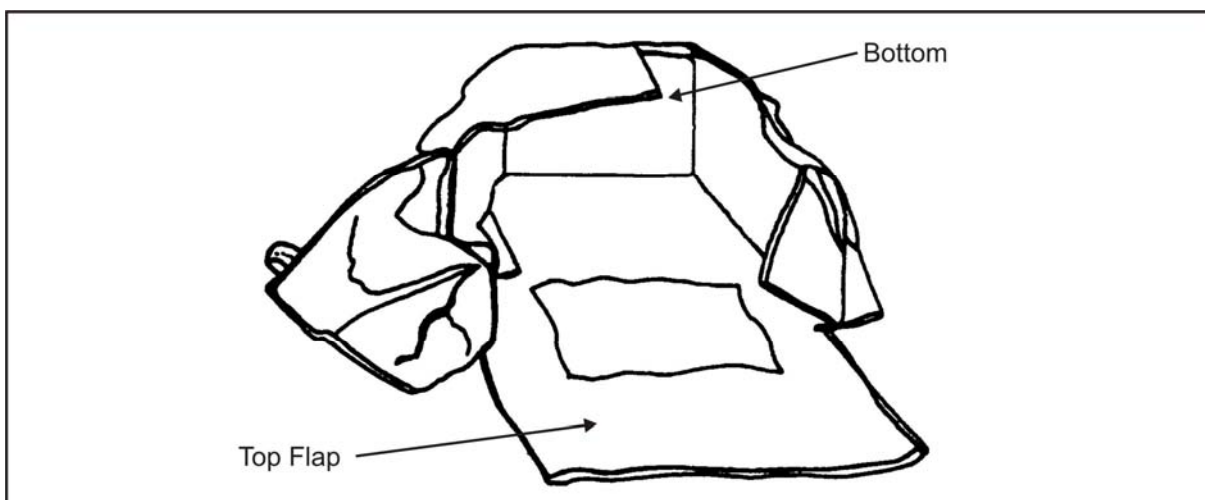

Figure 5-14. SARPELS With Folded Side Flaps
- Standing from the top of the SARPELS, folds over the left side flap and then the right side flap (Figure 5-14, page 5-17).